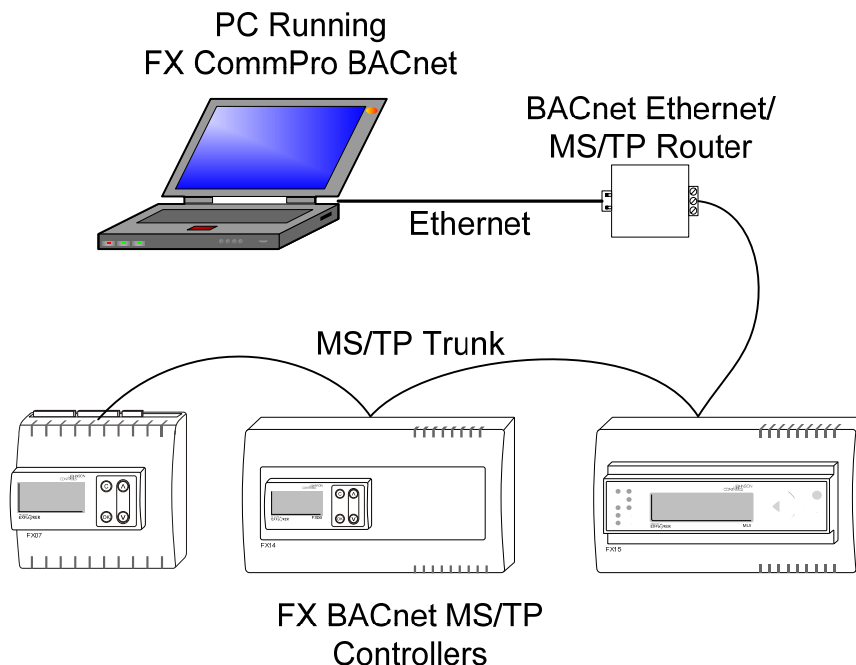

Figure 19: FX CommPro BACnet Tool Connection
FX CommPro BACnet tool (Figure 19) communicates via Internet Protocol (IP) over Ethernet. To connect FX CommPro BACnet tool to a Master-Slave/Token-Passing (MS/TP) field controller, you must install and configure a BACnet IP to MS/TP router or other adapter. We recommend you use the LP-KIT204-000C BACnet IP to MS/TP adapter.